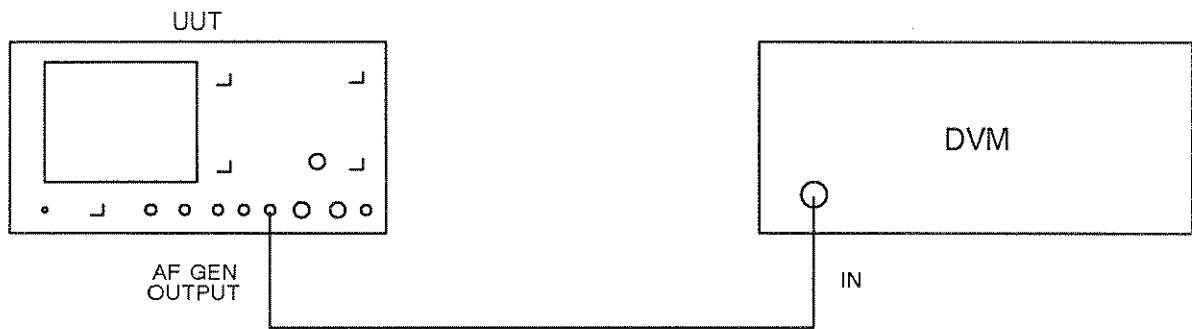

Fig. 5-15 Test equipment connections for AF generator DC offset
- (1) Connect the equipment as shown in Fig. 5-15.
- (2) Set the UUT to audio test mode by pressing RX, AF GEN. Ensure GEN 1 is on, GEN 2 is off and that the shape is sine. (This can be confirmed or altered under AUDIO SETUP in the TONES menu.) Set GEN 1 frequency to 50 Hz, level 0 mV.
- (3) Set the DVM to measure DC level.
- (4) Check that the DC level indicated on the DVM is less than 100 mV DC.
- (5) Repeat the above for random frequencies between 50 Hz and 15 kHz.